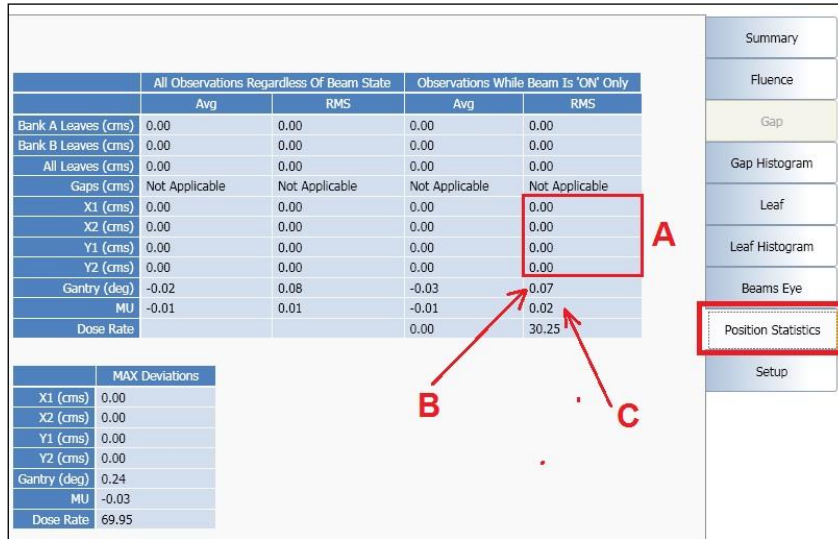

Figure 63: Example of Position Statistics Screen
8. Select the Position Statistic as shown in Figure 63. Verify the values meet the specification of the executed test plan.